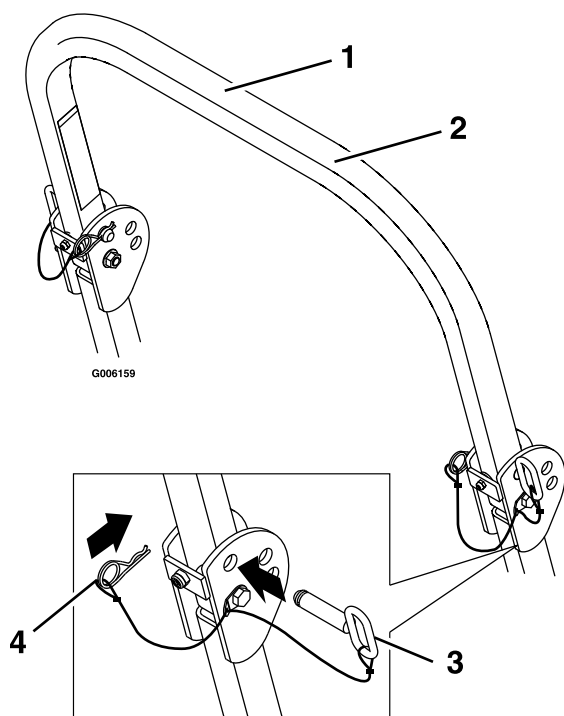

Figure 5
1. Remove the hairpin cotter pins and remove the two roll bar pins (Figure 5).
2. Raise the roll bar to the upright position and install the two pins and secure them with the hairpin cotter pins (Figure 5).